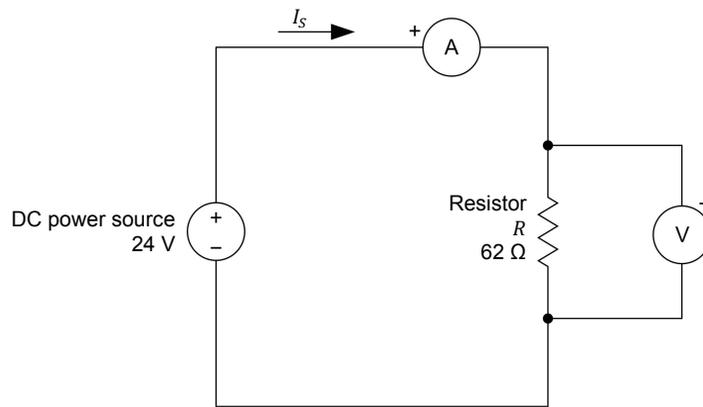
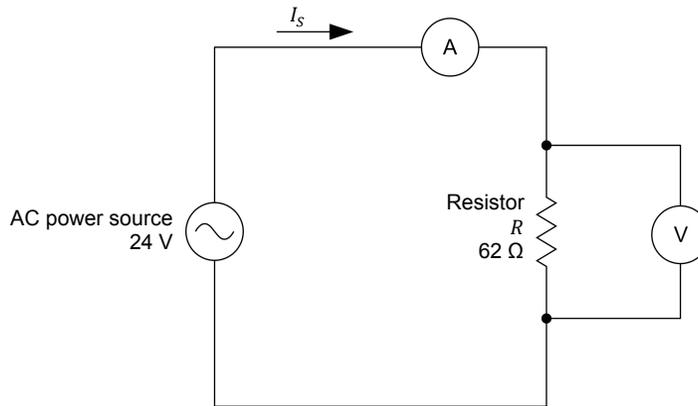

Figure 18. DC circuit containing a resistor.
Figure 19. AC circuit containing a resistor.
4. Connect the circuit shown in Figure 18. Use the  $62\ \Omega$  resistor to implement the resistor. Connect the voltmeter and ammeter as shown in the circuit.
9. Connect the circuit shown in Figure 19. The only modification in the circuit is that the dc power source has been replaced by an ac power source. The rest of the circuit is identical to the circuit in Figure 18.